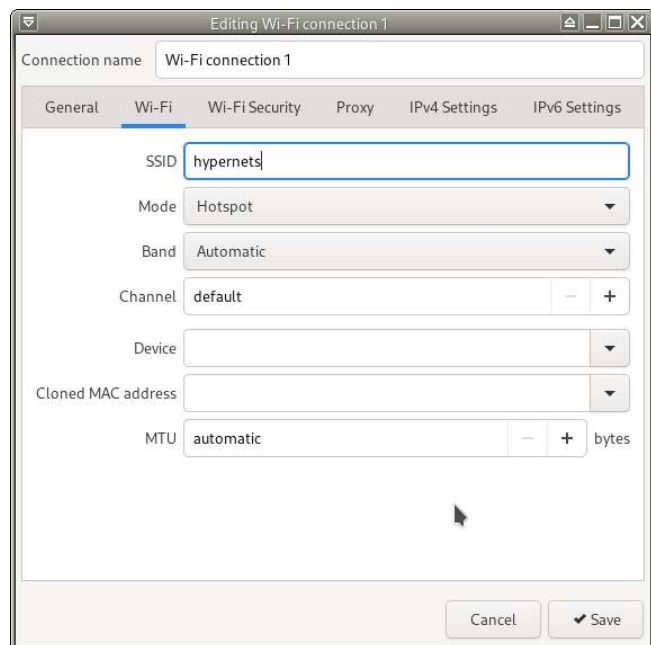

Figure 31: Edit Connections
- First, right click on the the connection logo in the bottom right corner of the screen and click *Edit Connections...* (see figure 31).